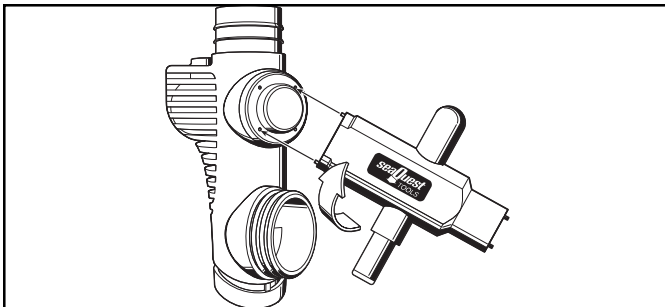

Figure 8
1.3.16 Mate both pins on the large end of the T-Tool (P/N 42314) into two opposing holes in the inflator bezel. While holding the tool securely engaged, turn the bezel clockwise until it is flush with the surface of the body (see Fig. 8). **DO NOT** overtighten. Closely inspect the button cover to ensure that it is seated evenly on all sides, and does not appear to be crimped or partially unseated.